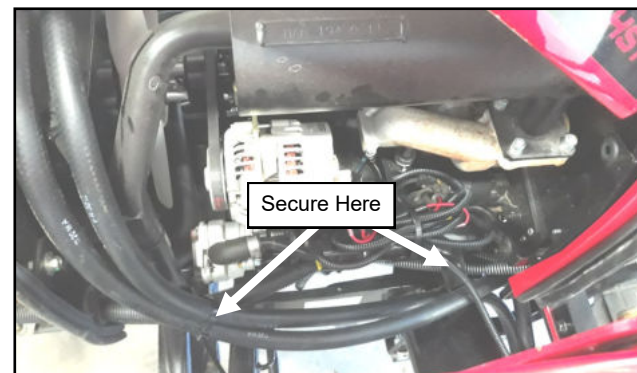

Fig. 20.2 (Run Hose Through Engine Bay)
20.2 Run the rest of the hose, as if it were a stacked pair of hoses, along the left side of the engine, then up and over the radiator. Make sure the heater hose is not too tight or kinked and secure in place with 2 plastic cable ties as shown in fig. 20.2. **CAUTION: make sure the heater hoses are not too close to any part of the exhaust system.**